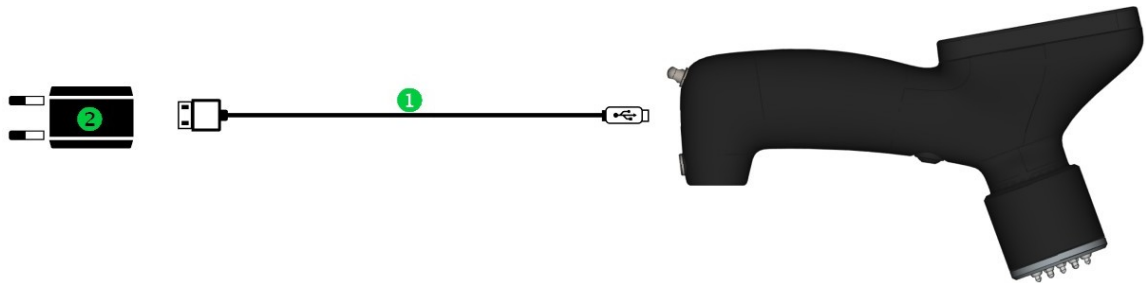

Figure 2: Charging over USB-AC charger
For charging using PC ① connect the A1410 PULSAR to PC's standard USB-plug, Figure 2: